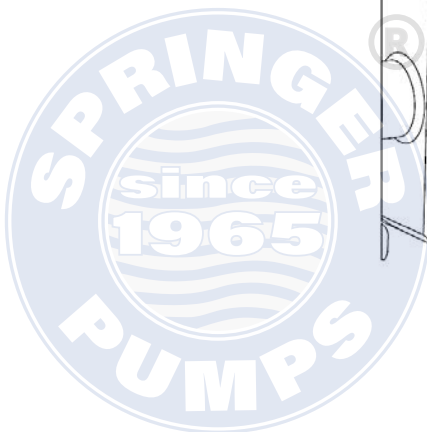

**Figure 36: Double Mechanical Seal Assembly**
*Assembly:* Clean both shaft ends and the body before assembling. Lubricate the rotating seal o-ring and install it in the rotating seal. Slide the rotating seal onto the shaft as seen in Figure 36 (A) making sure to line the slot on the rotating seal to the pin in the shaft. Install the seal base o-ring in the back of the body and apply a light film of lubricate. Push the double mechanical seal base in the body making sure to line up the holes in the base with the pins in the body (Figure 36, B).